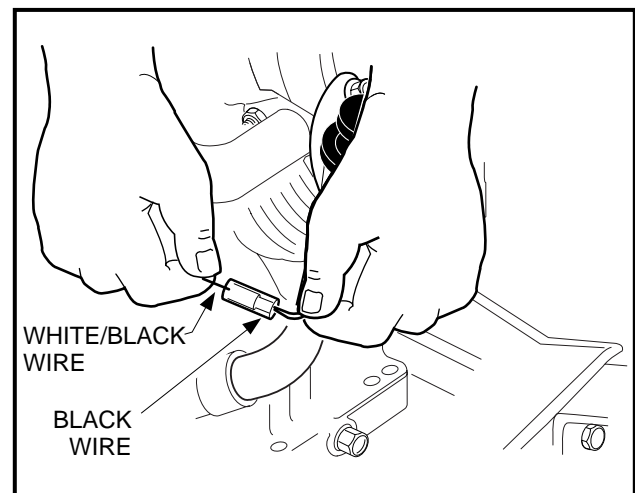

Figure 16-93 Ignition Kill Wire
21. Connect the engine kill switch wire (18 gauge white/black) to the bullet connector at the lower right front of the engine (**Figure 16-93, Page 16-38**).